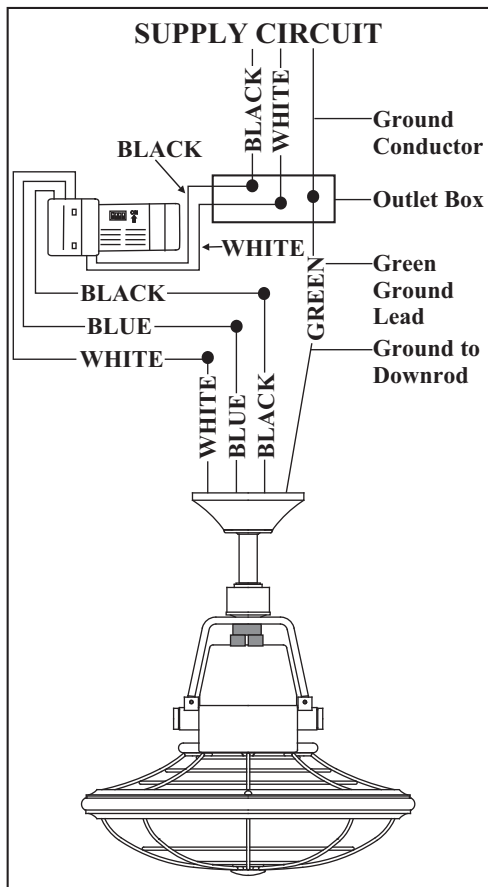

Figure 11
2. (Fig. 11) Motor to receiver electrical connections: Connect the black wire from the fan to black wire marked "TO MOTOR L". Connect the white wire from the fan to the white wire marked "TO MOTOR N" from the receiver. Connect the blue wire from the fan to the blue wire marked "FOR OSCILLATION"
3. (Figure 11) Receiver to house supply wires electrical connections: Connect the black (hot) wire from the ceiling to the black wire marked "AC in L" from the receiver. Connect the white (neutral) wire from the ceiling to the white wire marked "AC in N" from the receiver. Secure the wire connections with the plastic wire connecting nuts provided.
4. (Figure 11) If your outlet box has a ground wire (green or bare copper) connect it to the fan ground wires; otherwise connect the hanging bracket ground wire to the mounting bracket. Secure the wire connection with a plastic nut provided. After connecting the wires spread them apart so that the green and white wires are on one side of the outlet box and black and blue wires are on the other side. Carefully tuck the wire connections up into the outlet box.